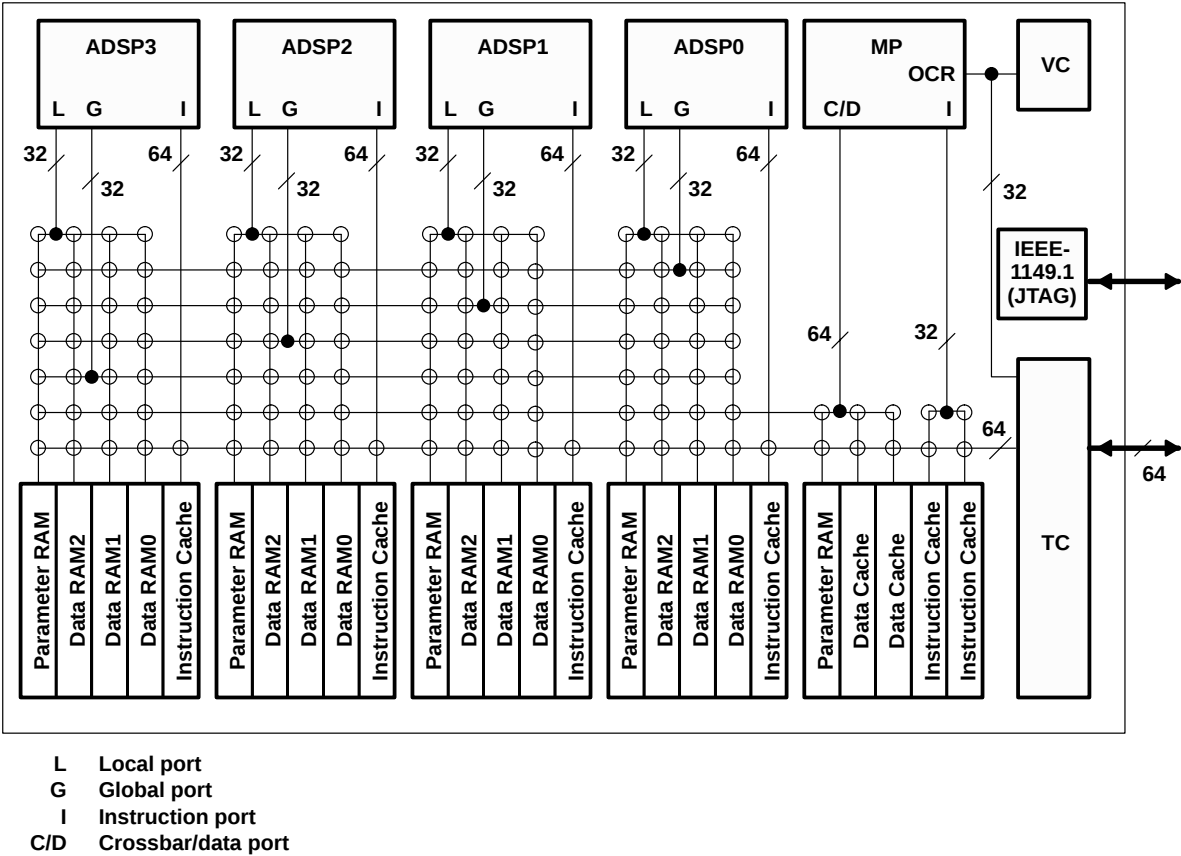

Figure 1. Block Diagram Showing Data Paths
Figure 1 shows the major components of the 'C80: the master processor (MP), the parallel digital signal processors (PPs), the transfer controller (TC), and the IEEE-1149.1 emulation interface. Shared access to on-chip RAM is achieved through the crossbar. Crossbar connections are represented by ○. Each PP can perform three accesses per cycle through its local (L), global (G), and instruction (I) ports. The MP can access two RAMs per cycle through its crossbar/data (C/D) and instruction (I) ports, and the TC can access one RAM through its crossbar interface. Up to nine simultaneous accesses are supported in each cycle. Addresses can be changed every cycle, allowing the crossbar matrix to be changed on a cycle-by-cycle basis. Contention between processors for the same RAM in the same cycle is resolved by a round-robin priority scheme. In addition to the crossbar, a 32-bit data path exists between the MP and the TC and VC. This allows the MP to access TC control registers that are memory-mapped into the MP memory space.